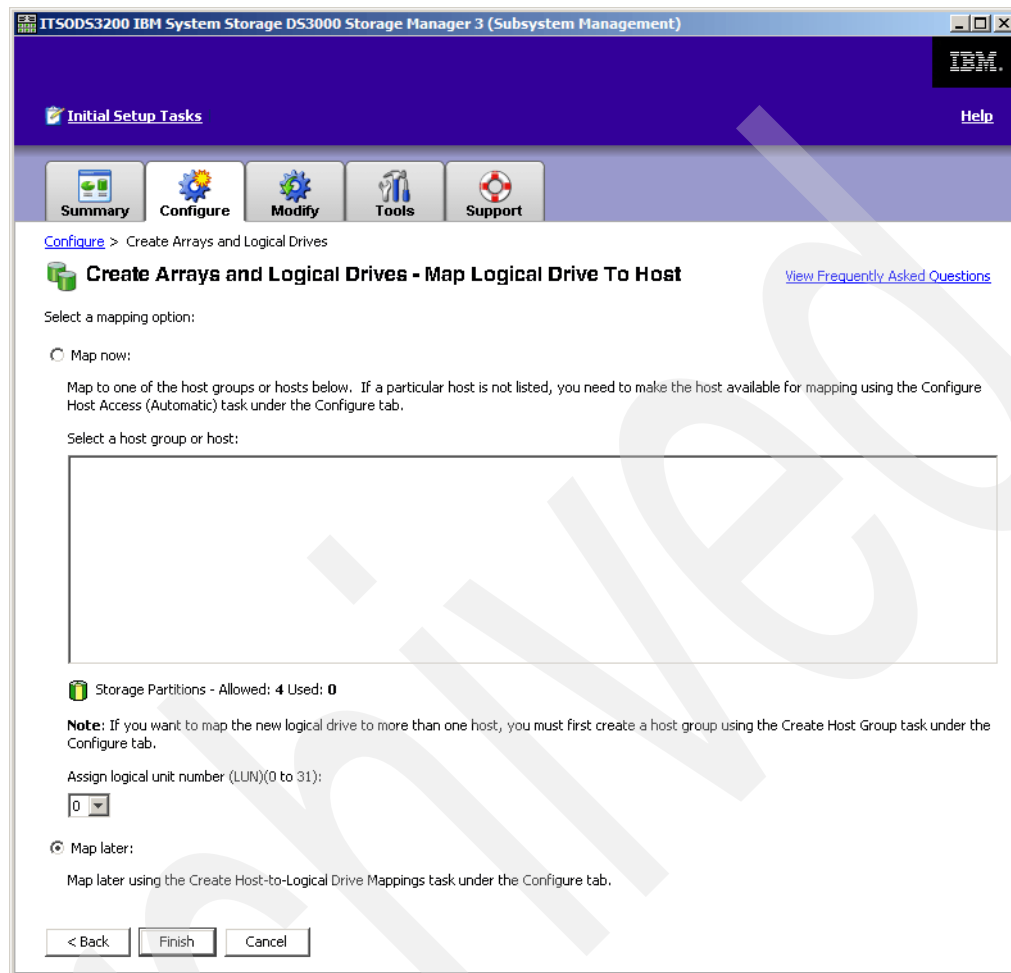

Figure 20-23 LUN ID
8. Leave the **Map later** radio button selected, as shown in Figure 20-23. Click **Finish** to complete the step.